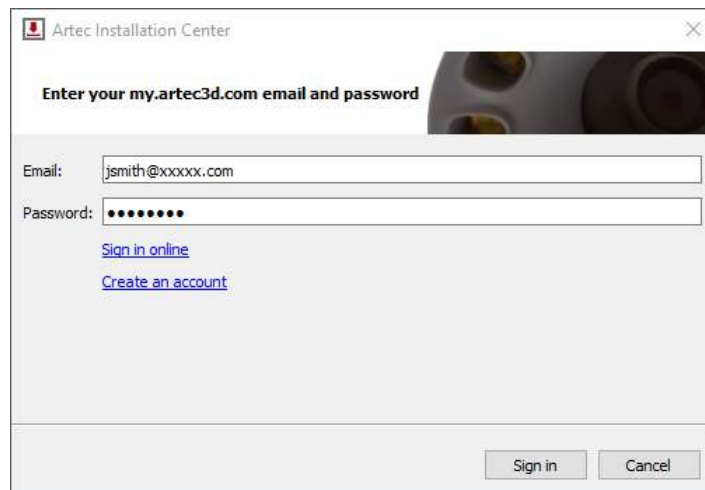

Figure 18: Authentication for Artec Installation Center
2. After downloading, open the folder that contains the executable and run it. Follow the instructions on the installation screens. Once Artec Installation Center is installed, you will see a dialog requesting your email address and password. Use your *my.artec3d* account to log in as **Figure 18** shows.
If you have yet to install Artec Installation Center, a login dialog will appear, as Figure 18 shows. If you are not connected to the Internet, consult Offline Activation regarding offline activation of Artec Studio.